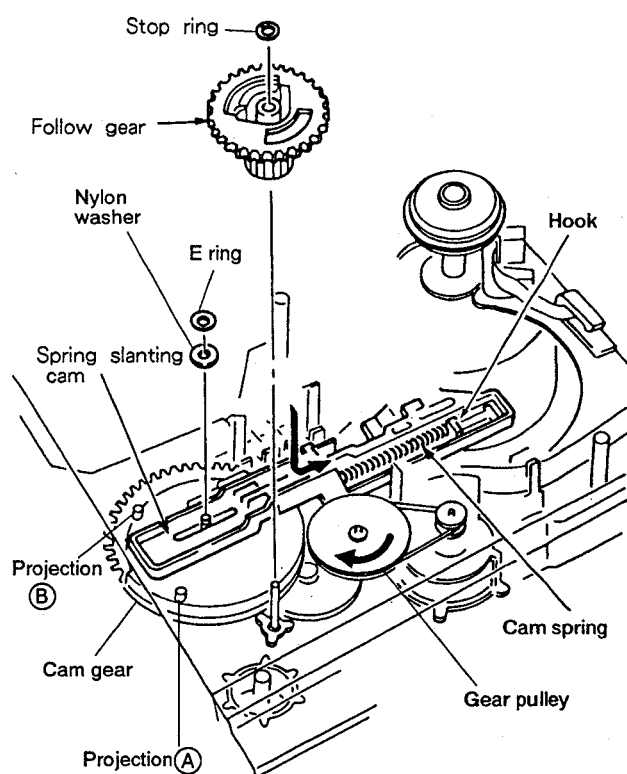

Fig. 13
- ③ Install a nylon washer and an E ring, and hang the cam spring on the hook. (Fig. 13)
Note: The cam gear and spring slanting cam as shown in Fig. 13 are positioned when installing the slide cam.
- ③ Install the stop ring. (Fig.13)
- ① Set the position of projection A and B of the cam gear by turning the gear pulley clockwise by hand as shown in Fig.13.